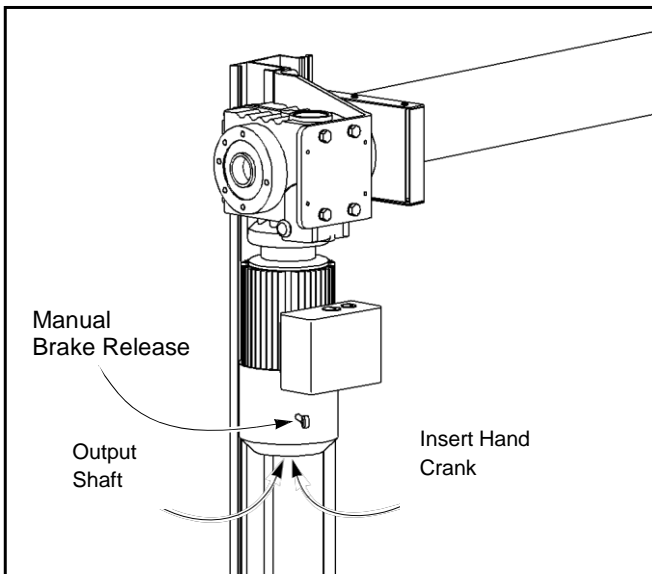

Figure 22
1. Check the brake release lever located on the motor/ brake assembly. The brake must be in the engaged position. (See Figure 22.)